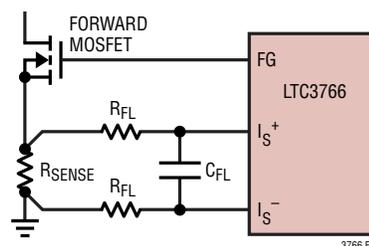

Figure 11. Using a Current Sense Resistor
When using a current sense resistor, the  $I_S^+$  and  $I_S^-$  pins operate differentially and the maximum peak current threshold is approximately 75mV. Normally, the current sense resistor is placed in the source of the forward MOSFET, as shown in Figure 11. Depending on PCB layout and the shielding of the traces going to the  $I_S^+$  and  $I_S^-$  pins, it is sometimes necessary to add a small amount of filtering as shown in Figure 11. Typically, values of  $R_{FL} = 100\Omega$  and  $C_{FL} = 200\text{pF}$  to  $1\text{nF}$  will provide adequate filtering of noise pickup without substantially affecting the current loop response.
1. The accuracy of the current sense resistor and/or current sense transformer. For resistor sensing, the accuracy of the current sense resistor is normally 1%. For sense resistors less than  $2\text{m}\Omega$ , however, the parasitic inductance can cause a significant error in the sensed current. This error can be eliminated by adding an RC filter as shown in Figure 11.